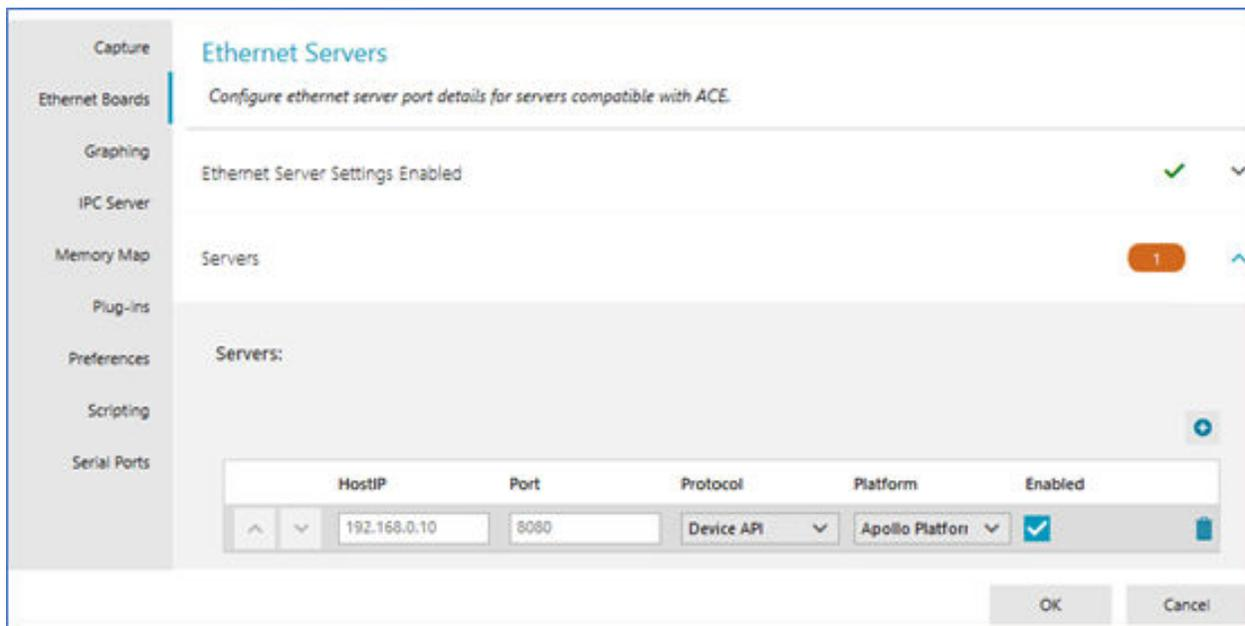
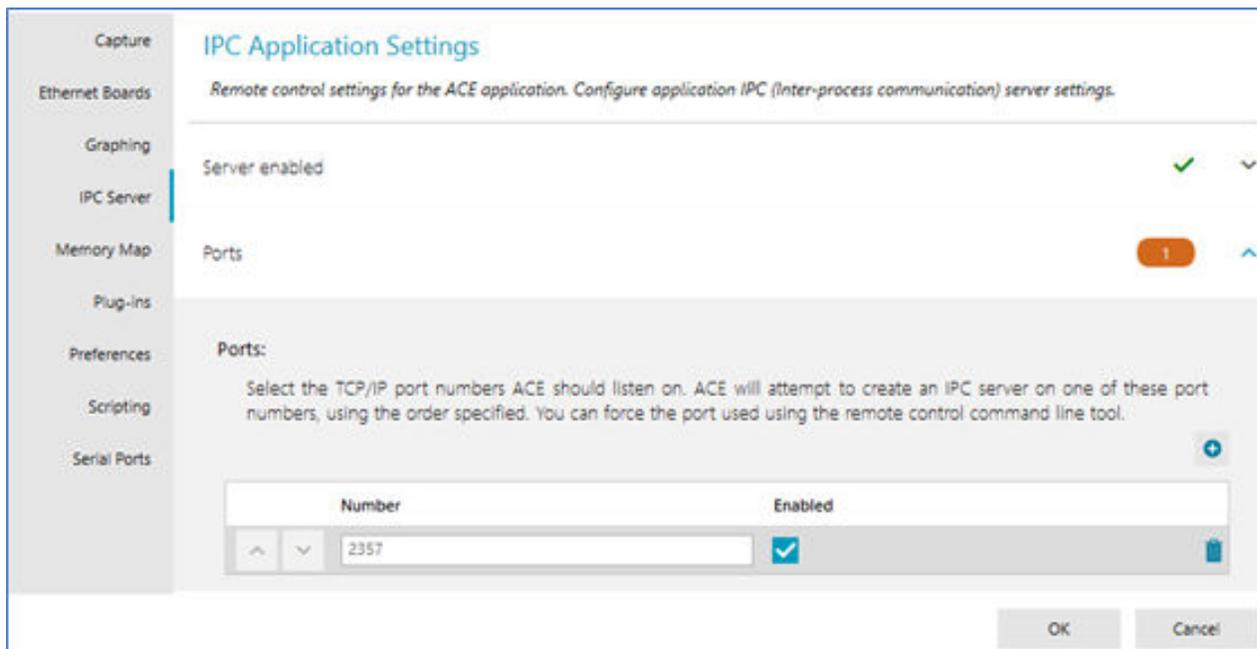

Figure 11. Ethernet Server Settings in ACE
Figure 12. IPC Server Settings in ACE
The **ACE Software** automatically configures the Ethernet settings and IPC server settings. Figure 11 and Figure 12 show the correct configurations. These views are accessible by clicking the **Settings** link in the lower left corner of the **ACE Software** GUI.
- ▶ If the connection to the **ADS10-V1EBZ** is lost, it can be reset by disabling both the Ethernet boards server (that is, the RPC server) and the IPC server, and then re-enabling the RPC and IPC servers. The settings are accessed as shown in Figure 11 and Figure 12.